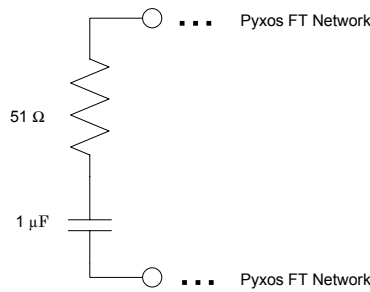

Figure 1. Network Terminator for a Free-Topology Pyxos FT Network
2. For a free-topology Pyxos FT network, attach a single network terminator, as shown in **Figure 1** on page 7, anywhere in the network.